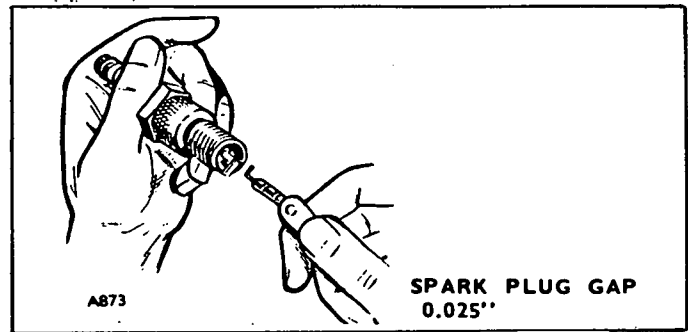

FIGURE 6 SPARK PLUG SETTING
8. Spark Plugs: Check, clean and reset spark plugs every 100 operating hours. Replace spark plugs that show signs of fouling or electrode erosion. See Figure 6.